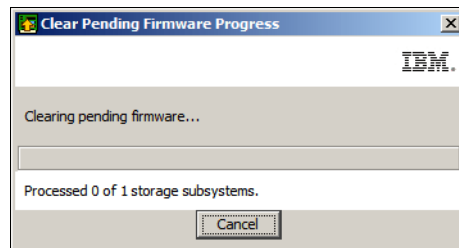

Figure 14-25 Clear Pending Firmware Progress
- c. Click **Yes** to clear the pending firmware upgrade and the Clear Pending Firmware Progress window that is shown in Figure 14-25 opens.